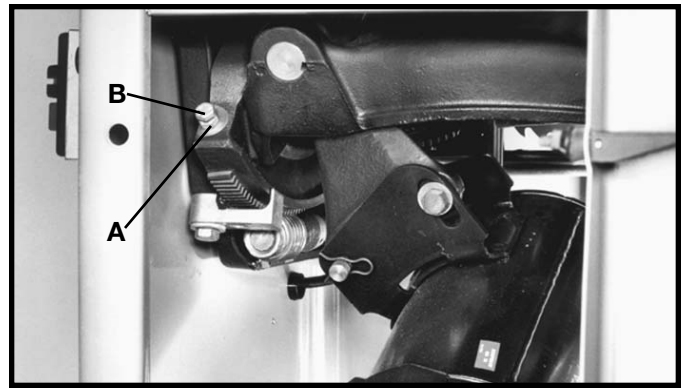

Fig. 122
3. Using a square, check to see if the blade is 90 degrees to the table. If an adjustment is necessary, turn the blade tilting handwheel counterclockwise. Loosen locknut (A) Fig. 122, and tighten or loosen adjusting screw (B) until head of screw (B) contacts casting on front trunnion when the blade is at 90 degrees to the table. Then tighten locknut (A).